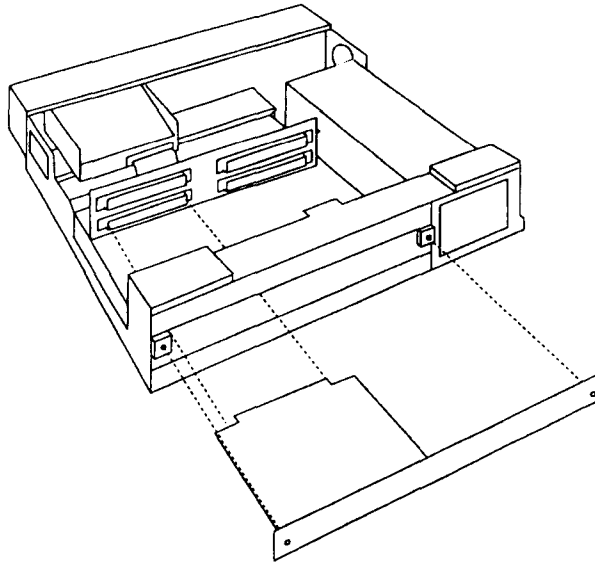

Figure 2: Fitting a co-processor card
- 2 To fit the co-processor card, support the backplane firmly with one hand and push the connector on the card into the co-processor socket (labelled podule 2) on the backplane (see Figure 2). The connector should be securely seated, i.e. the backplate of the card should be flush with the rear of the computer case. It is important that you offer the card up to the backplane at right angles to it and that you align the connectors; otherwise, you may bend the pins or break or disconnect the backplane itself. It does not require great force to install the co-processor card correctly. If the card does not fit into the socket correctly, remove it and try again.